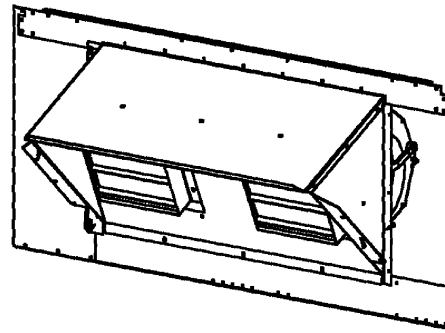

Fig. 8 — Assembly in Operating Position
9. Tilt the assembly out of the unit and into final operating position. See Fig. 8.
6. Tilt the assembly out of the unit and into final operating position. See Fig. 8.